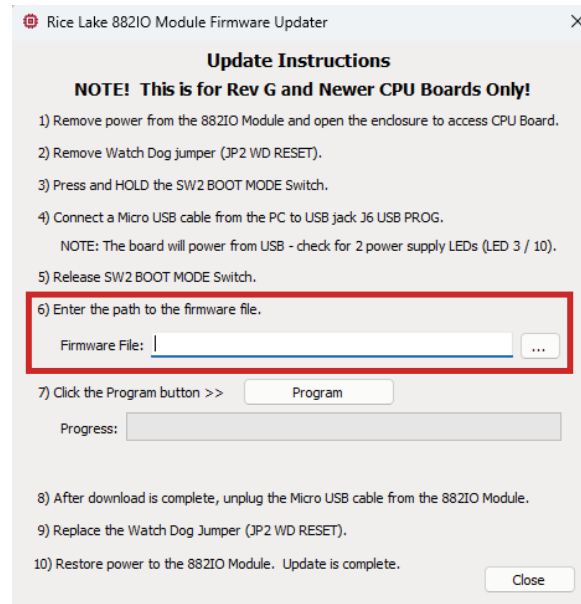

Figure 3-2. Rice Lake 882IO Module Firmware Window
- Select the “...” button. Browse and select the firmware file (see Figure 3-2).